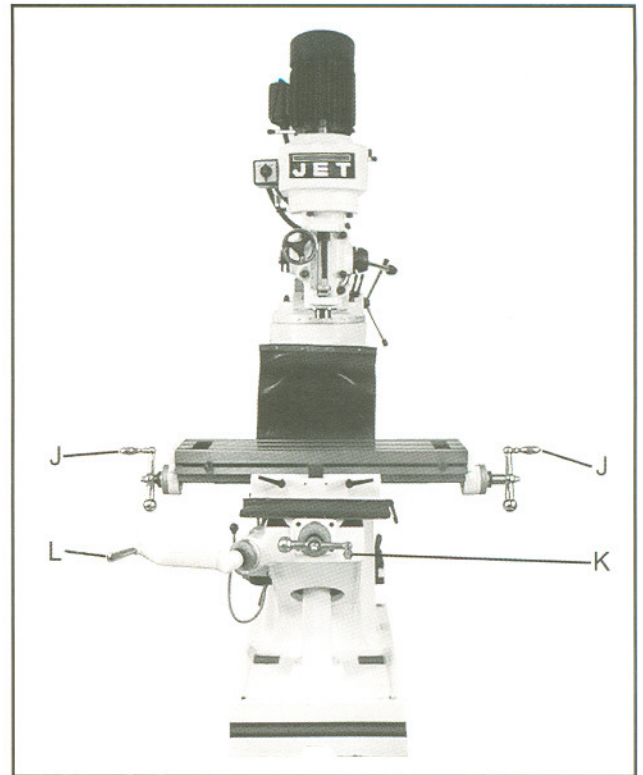

Fig. 6
- K. **Longitudinal Movement** (J, Fig. 6) handles located on opposite ends of the table. This controls the X axis.
- L. **Cross Movement** (K, Fig. 6) handle located directly in front of the machine. This controls the Y axis.
- M. **Knee Handle** (L, Fig. 6) this raises the table up and down.